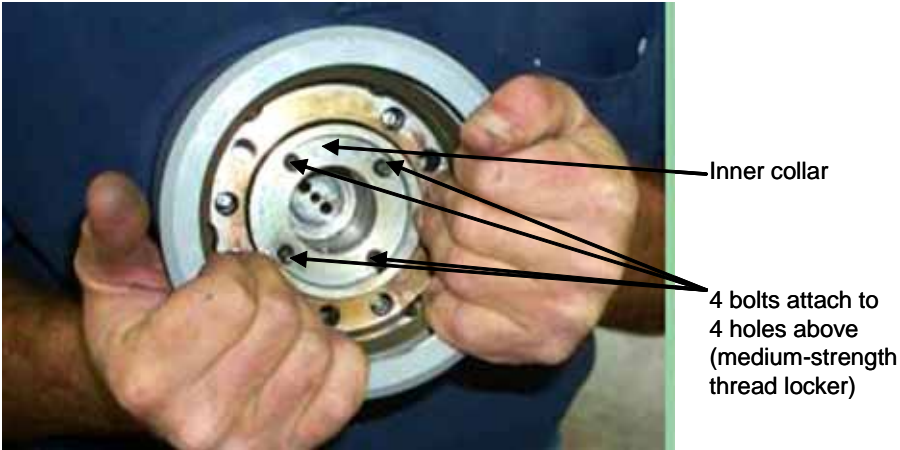

Figure 81. Upper catch.
11. Hold the upper catch in your hands and carefully place your fingers at the base of the outer flange and inner ring (figure 81). Turn the assembly so the top faces up and the outer flange and inner ring slide down. Hold in place until the inner ring is resting on the guide flange with the outer catch shell.